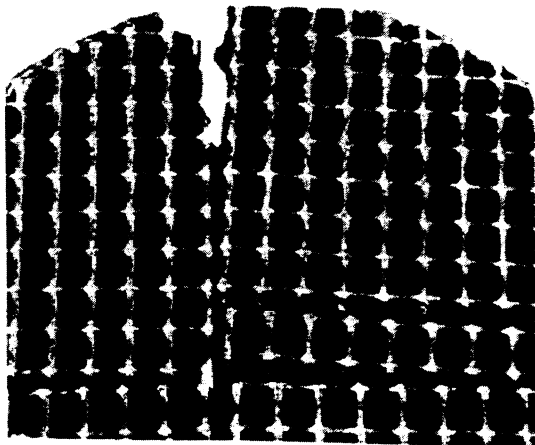

Figure 23
•**Cracking (Figure 23)** Cracks can develop from either thermal stress or mechanical stress. As long as large pieces do not fall out of the combustor, it can still function with a few cracks. Mechanical stress may indicate that some part of the surround-